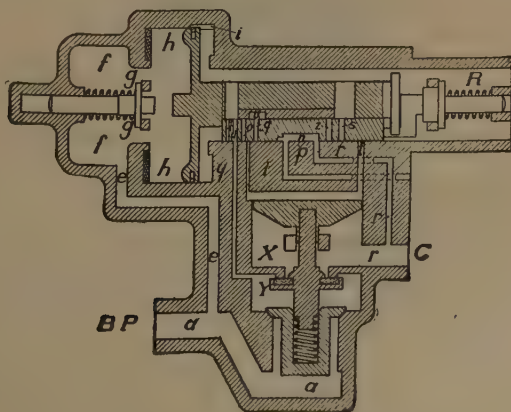

Fig. 315. K Triple Valve, Full Release.
A. With reference to Fig. 315, which shows the valve in